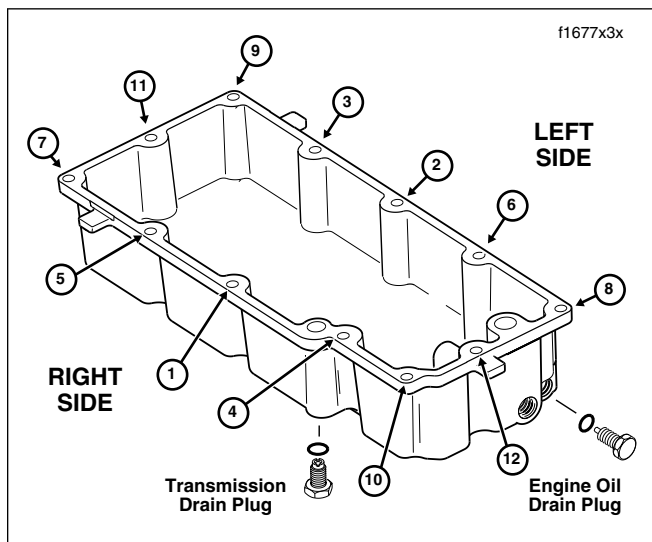

Figure 7-52. Oil Pan Torque Sequence
1. See Figure 7-52. Remove both the engine oil and transmission lubricant drain plugs from the oil pan. Drain the fluids into suitable containers.
5. Tighten the oil pan screws to 84-132 **in-lbs** (9.5-14.9 Nm) following the numerical sequence shown in Figure 7-52.